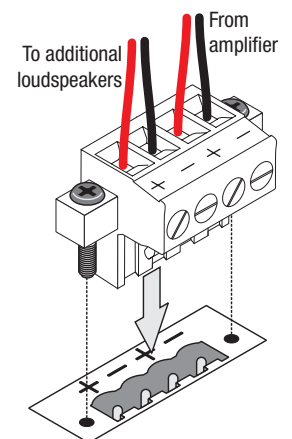

Figure 6
4. To daisy-chain on to another loudspeaker, attach a second wire pair to the Euro-style connector. Plug the connector into the loudspeaker's input connector and tighten the retaining screws (Figure 6). Reinstall the protective cover.